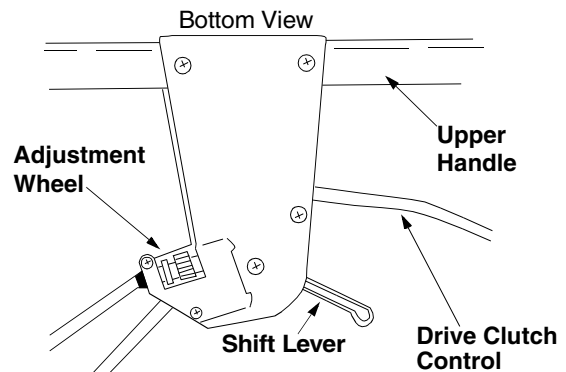

Figure 15
- To resolve the above problems, rotate the adjustment wheel with your fingers: clockwise to tighten the cable and counter-clockwise to loosen the cable. See Figure 15.